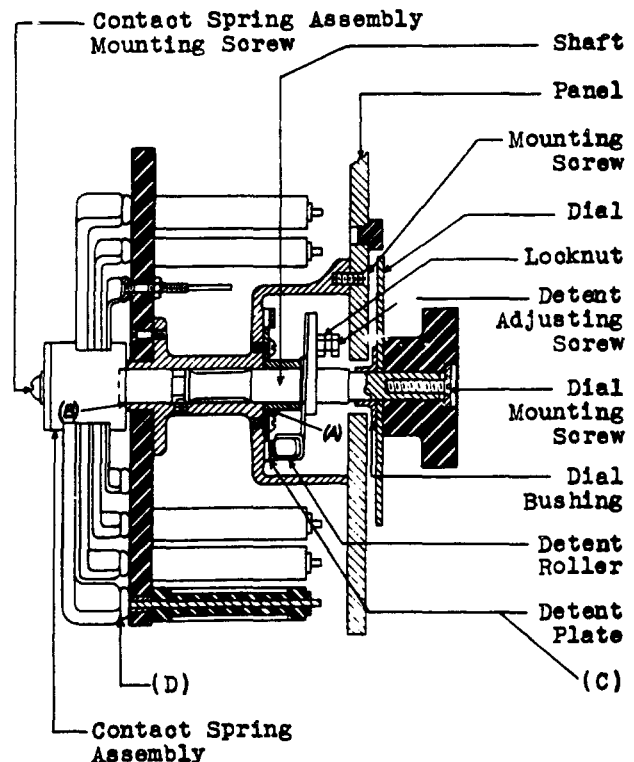
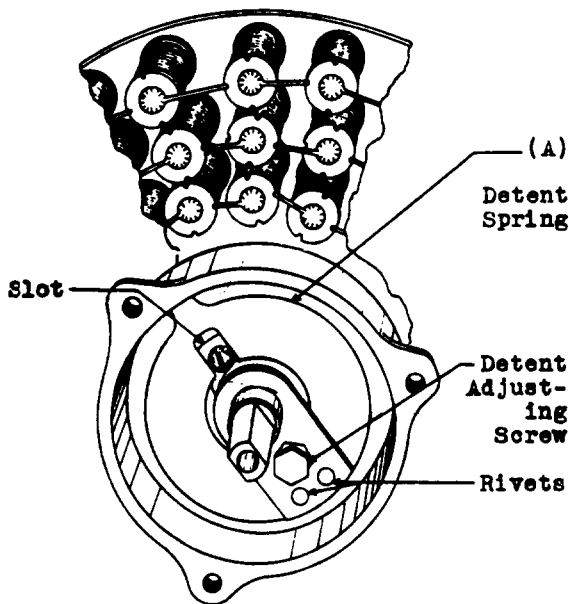

Fig. 2 - Section View
Fig. 3 - End Next to Panel
- (b) The shaft Fig. 2 (A) and (B) and the detent plate Fig. 2 (C) shall be lubricated when necessary.
- (a) Fig. 2 (D) - The contact surfaces of the contact springs shall be parallel with the contact surfaces of the studs and the collector ring. Gauge by eye.
Fig. 3 (A) - The detent spring pressure shall be as light as possible consistent with insuring the detent roller seating properly in the detent notches and causing a noticeable click when changing from one stud to another.
(a) Unsolder the IN and OUT leads. Remove the dial by removing the dial mounting screw and washer in the center of the knob (Fig. 2). Remove the dial bushing. Remove the potentiometer from the panel by removing the three mounting screws under the dial. By means of a small length of bare copper wire (No. 17 or 18 gauge) with one end bent at right angles for a distance of about 1/8 inch
apply a small amount of Petrolatum on the detent plate (Fig. 2) and rotate the switch to spread the lubricant. Repeat until a visible film of lubricant covers the entire path of the roller.
(b) To lubricate the shaft, remove the contact spring assembly by removing the contact spring assembly mounting screw and washer (Fig. 2). To lubricate the shaft at the end next to the panel, (Fig. 2 (A)), apply KS-6232 oil by means of the 401A oil gun inserted thru the slot in the detent spring, (Fig. 3), to the shaft bearing. To lubricate the shaft at the contact spring end apply KS-6232 oil by means of the 401A oil gun to the shaft bearing shown at Fig. 2 (B). The proper amount of lubricant to be applied is obtained by turning the knob of the 401A oil gun six positions.
(1) If adjustments are necessary to secure parallel alignment of the contact springs remove the contact spring assembly from the shaft by removing the contact spring assembly mounting screw and washer (Fig. 2). Then after the spring assembly has been removed from
(2) If the detent roller does not rest in the corresponding depression when the contact springs are centrally located on a contact stud this is probably due to the two rivets (Fig. 3) fastening the detent spring to its support becoming loose, thereby permitting a certain amount of rotation of the contact springs before the detent spring and roller begin to rotate. This may be checked by removing the dial and removing the potentiometer from the panel as covered in 3.01 (2) (a) and then exerting just enough rotating force to rotate the shaft slightly and observing the detent spring. If this condition is found to exist the switch should be returned to the Western Electric Company for repairs as it cannot be remedied properly without removing the shaft assembly.
(1) If the rivets fastening the detent spring to its support (Fig. 3) have become loose no attempt should be made to adjust them but the switch should be returned to the Western Electric Company for repairs.
(2) If the rivets are tight the detent spring pressure adjustment may be accomplished as follows: Remove the potentiometer from the panel as covered in 3.01 (2) (a). Loosen the lock nut on the detent adjusting screw in the detent plate support and tighten or loosen the detent adjusting screw (Fig. 2) as required using the 417A wrench. Tighten the lock nut.